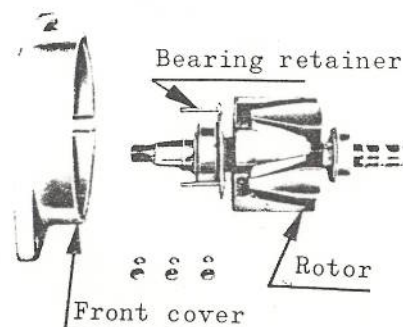

Fig. 10-124
- 3) Remove the bearing retainer fixing bolt from the front cover and then, remove the rotor from the front cover. (Fig. 10-124)